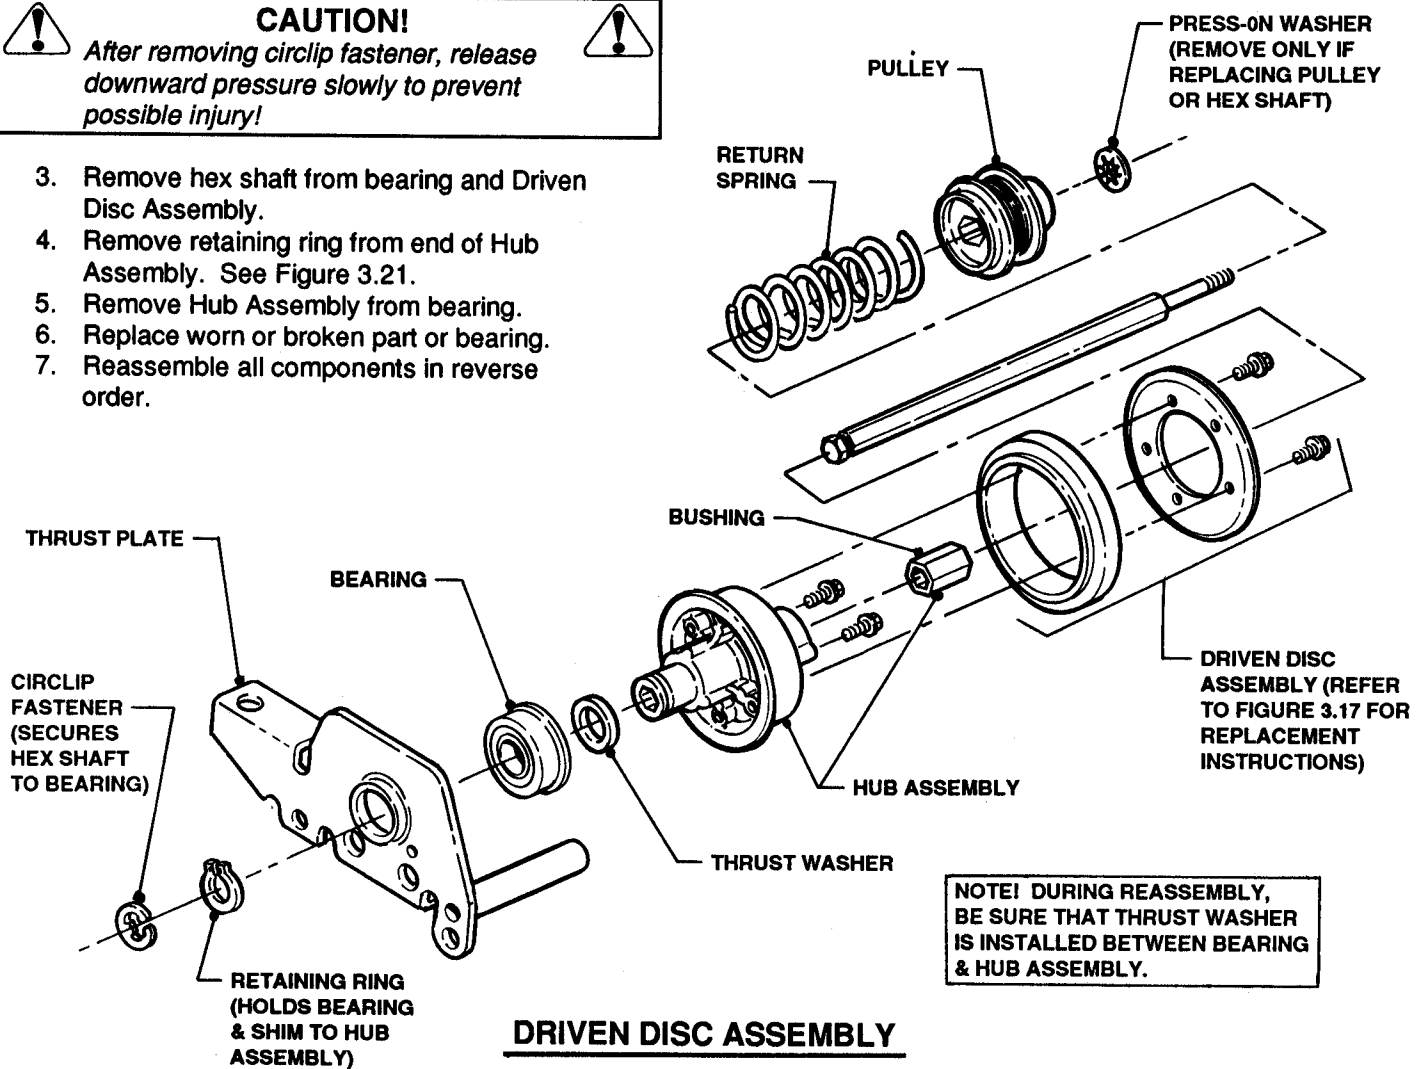

FIGURE 3.21
4. Remove retaining ring from end of Hub Assembly. See Figure 3.21.
- Remove Drive Disc bolt from top side of mower deck. See Figure 3.21.